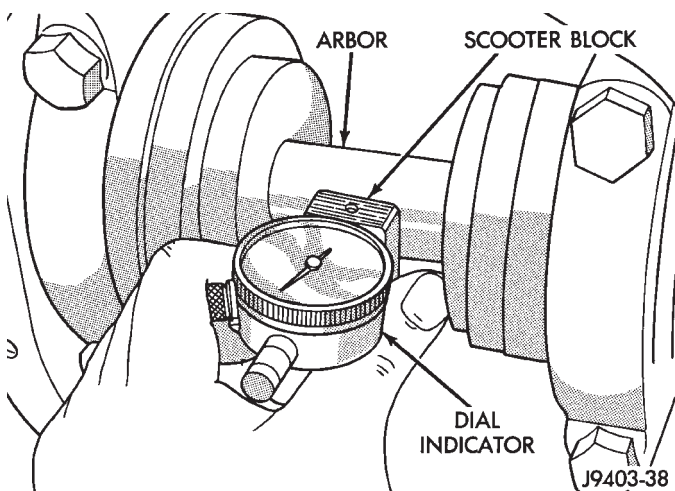

Fig. 49 Pinion Gear Depth Measurement—Typical DIFFERENTIAL BEARING PRELOAD AND GEAR BACKLASH
(7) With scooter block still in position against the pinion height block, slowly slide the dial indicator probe over the edge of the pinion height block.
(8) Slide the dial indicator probe across the gap between the pinion height block and the arbor bar with the scooter block against the pinion height block (Fig. 49). When the dial probe contacts the arbor bar, the dial pointer will turn clockwise. Bring dial pointer back to zero against the arbor bar, do not turn dial face. Continue moving the dial probe to the crest of the arbor bar and record the highest reading. If the dial indicator can not achieve the zero reading, the rear bearing cup or the pinion depth gauge set is not installed correctly.